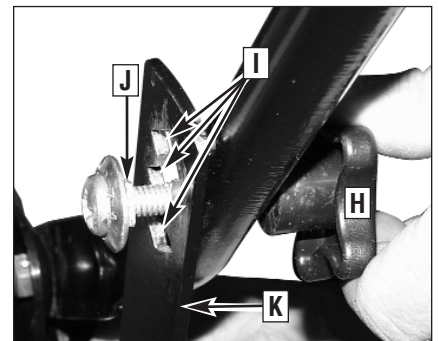

Figure 4-5: Adjusting handlebar height.
- a. Loosen one of the lower handlebar adjustment knobs (H, Figure 4-5) and give the knob a tap to free the handlebar strut (K) for adjustment. Repeat for the other side.
- b. Adjust the handlebars to the desired height and then tighten the handlebar adjustment knobs. Make sure that the square shank on the screw (J, Figure 4-5) seats squarely into one of the square slots (I).